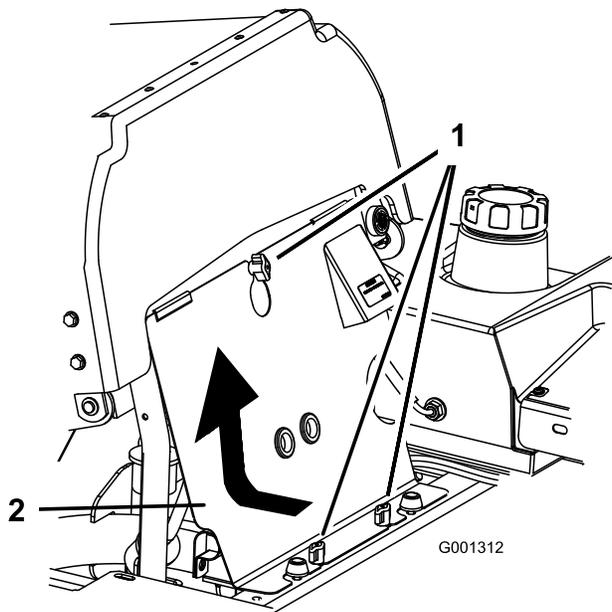

Figure 67
- Loosen the front engine panel knobs and remove the panel (Figure 67).